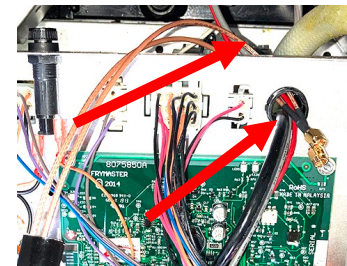

Figure 36
33. Insert the antenna extension wires from step 9 through the grommet in the rear of the FIB box (see Figure 36).